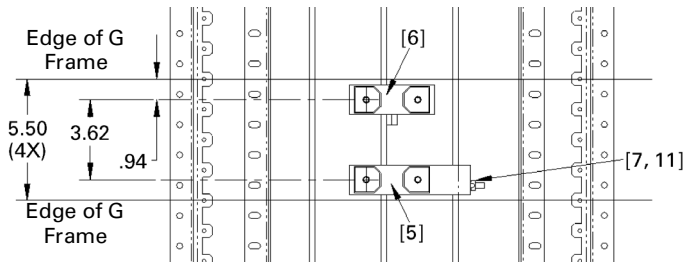

Figure 19. Installing straps on phases B and C.
**5f. Install straps on phases B and C.** Place the G frame straps [5, 6] over the carriage bolts and antiturn clips, as shown in Figures 19 and 20. Place conical washers [7] on the bolts and secure with nuts [11]. Leave the connections finger tight.